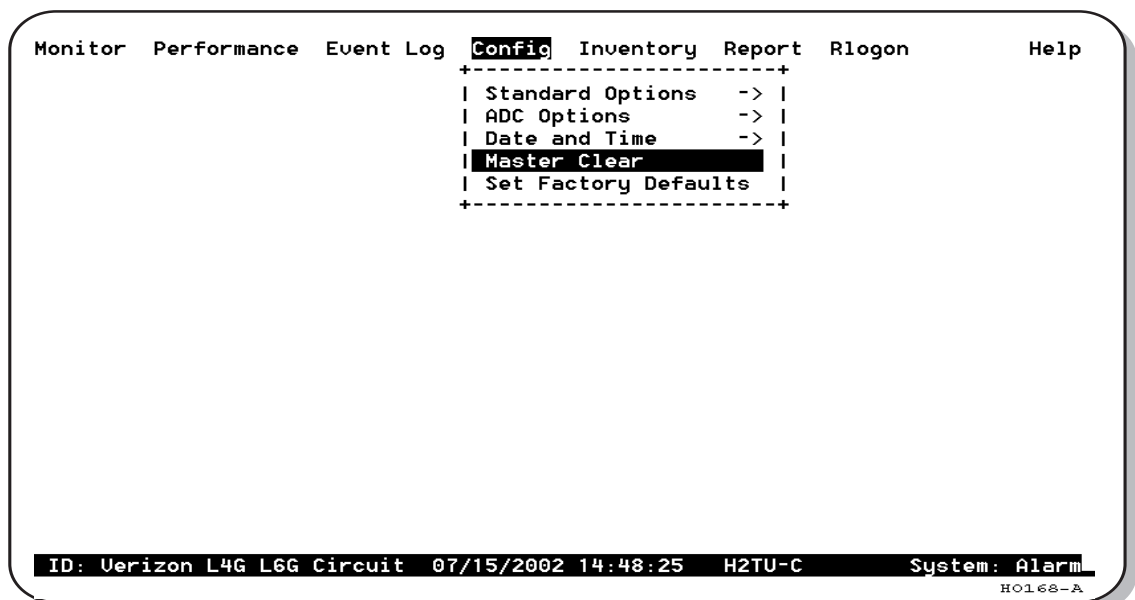

Figure 11. Config Menu - Master Clear
- 2 Use the **↑** and **↓** arrow keys to select **Master Clear** (see Figure 11).